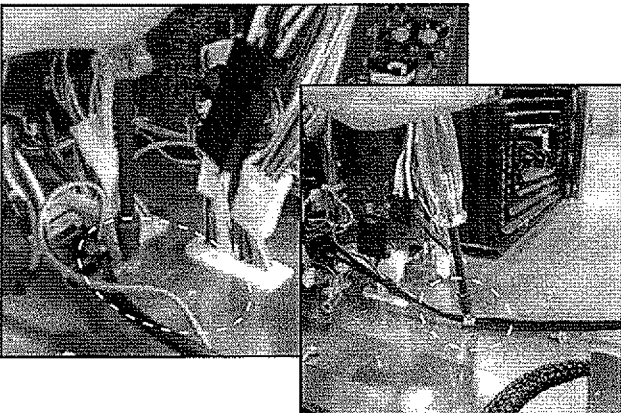

FIGURE 23
24. Reconnect the grounding wire connections using the screws from step 11. Re-install screw to power cord strain relief removed in step 12. See *Figure 23*.